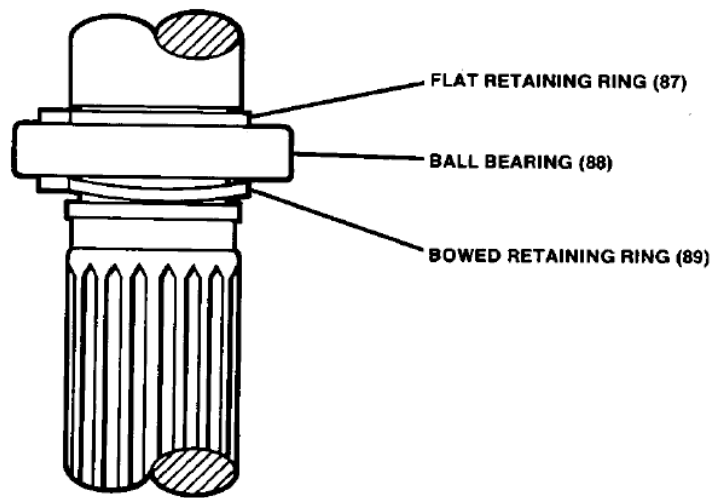

Figure 5-13. Drive Shaft Retaining Rings
9. Install bowed retaining ring (89) on drive shaft (86). Press bearing (88) on the shaft. Install flat retaining ring (87) (Figure 5-13).
10. Insert drive shaft (86) through seal (84) until the bearing is seated in pump housing (82). Secure the drive shaft assembly in the pump housing with bowed retaining ring (90).
11. Place gerotor pump gears (79) in pump housing (82), and O-ring (83) in the O-ring groove.